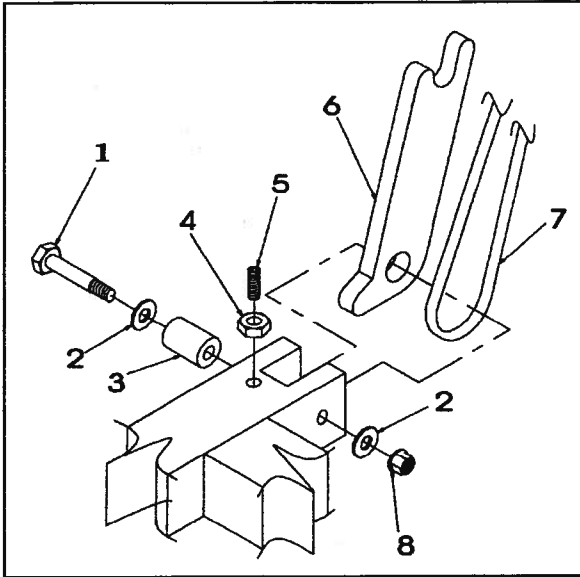

FIGURE 4 – COPILOT AND AFT OBSERVER ENERGY ATTENUATING WIRE SEAT ATTACHMENT
**Figures 4 thru 7
Note: Right side shown. Bolt (1) is always assembled pointing into seat; i.e., left side attachment hardware is opposite to what is shown in Figure 4. Attenuating wire (7) is on the right of the bracket (6) on both sides of the Pilot seat